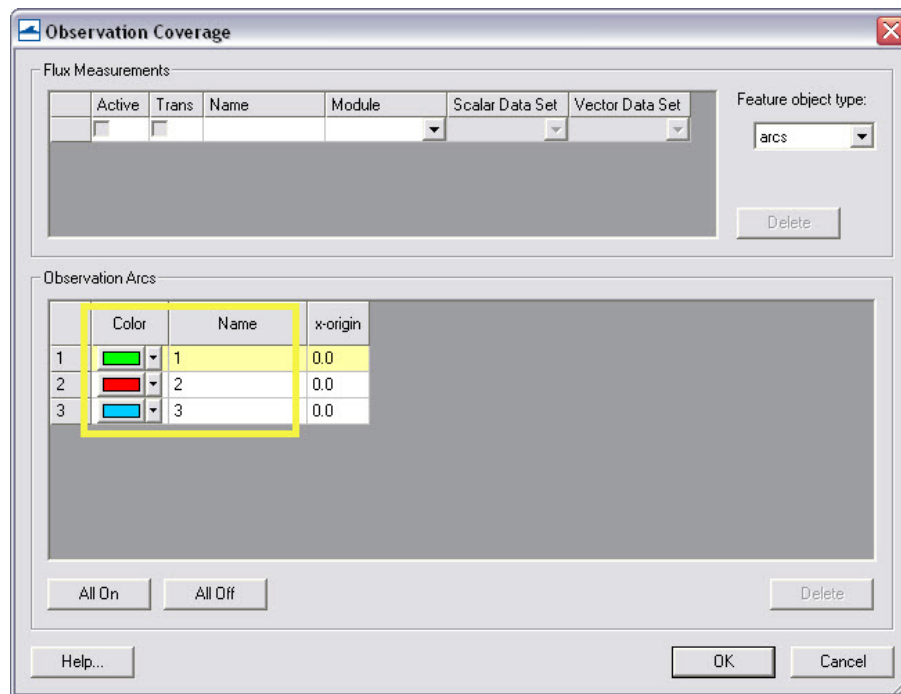

Figure 8.4.3. Observation Coverage attributes.
10. Rt-click an arc and click on *Attributes*, and set the color and name(s) of each arc which are listed together in the *Observation Coverage* options (Figure 8.4.3), click OK